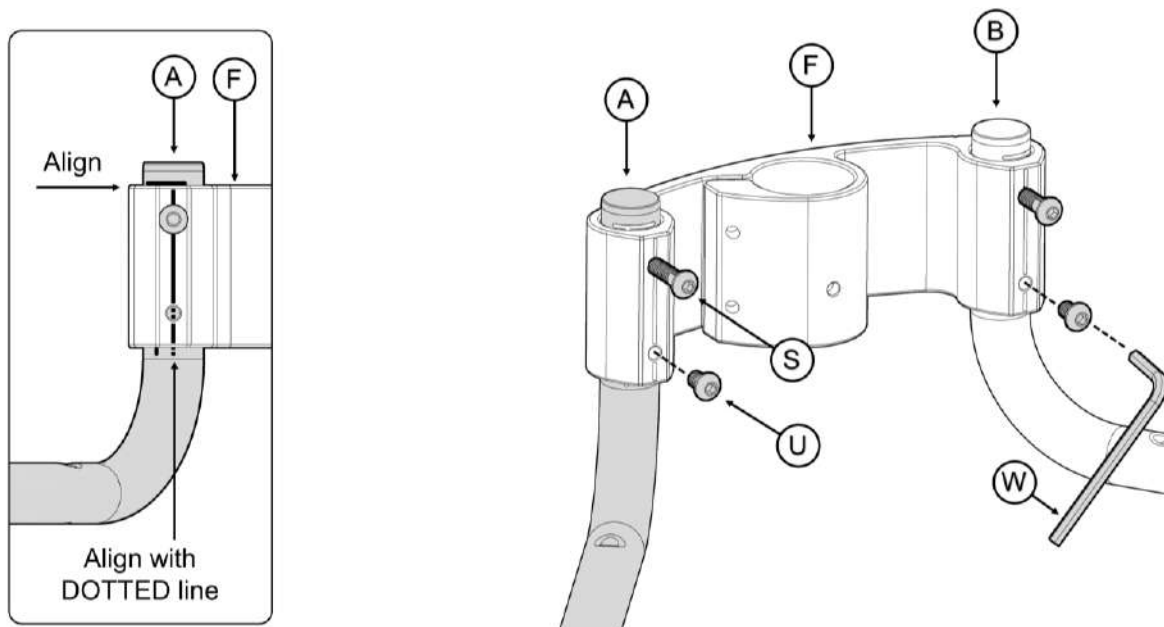

FIGURE 4
4. Align top edge of **F** with horizontal line on leg **A**. Align holes on **F** with DOTTED line on **A**. Screw in **S** and tighten firmly with tool **W**. Insert **U** into lower hole and tighten firmly. Repeat for leg **B**. Legs should be at an angle to one another when assembled. *FIGURE 4*